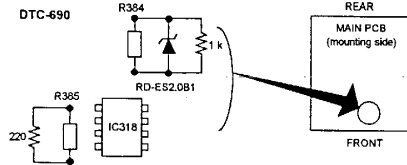

Figure 3
1. Mount a 1K ohm resistor and an RD-ES2.0B1 Zener diode (both supplied in kit) parallel to R384 (see Figure 3). Note the orientation of the Zener diode.
2. Mount a 220 ohm resistor in parallel with R385 (see Figure 3).